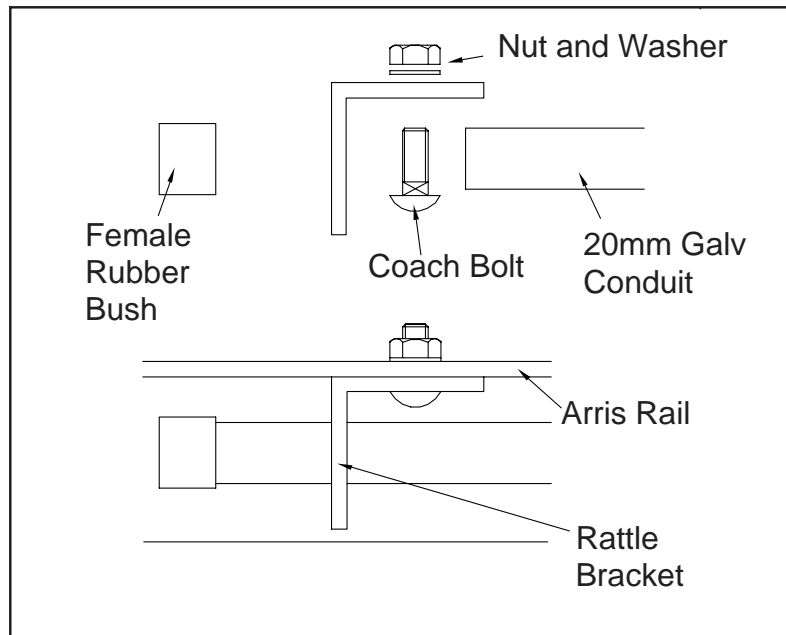

Figure 19
4. Insert the bolts, with the thread uppermost, into the holes in the Rattle Brackets and place bracket onto either end of the conduit. Push a female rubber bush onto each end of the conduit. See Figure 19.
8. Starting at the end of the zone, fix the Rattle Brackets to the arris rail using the holes drilled previously and the stainless steel coach bolts, shakeproof washers, and nuts provided. The coach bolts are to be fitted with washer and nut uppermost. See fixing detail in Figure 19.